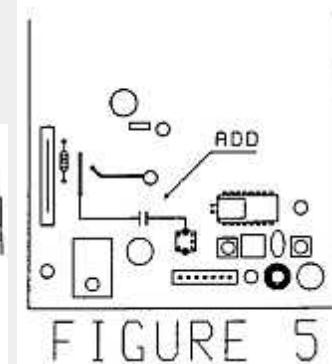

FIGURE 5
8. On the component side of the IF unit, add a 1  $\mu$ F capacitor as shown in figure 5.